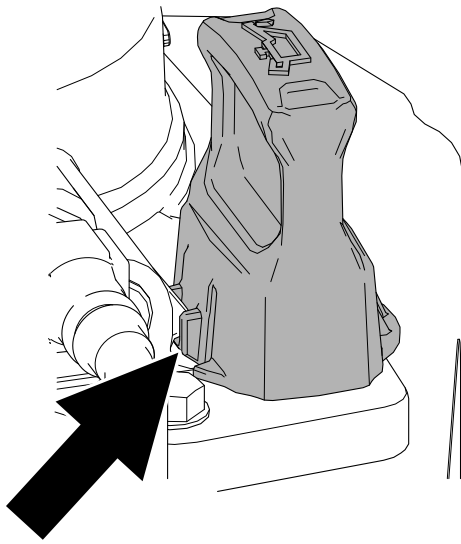

Figure 38
5. Fully install the dipstick and ensure that it latches (Figure 38).
10. Fully install the dipstick and ensure that it latches (Figure 38).